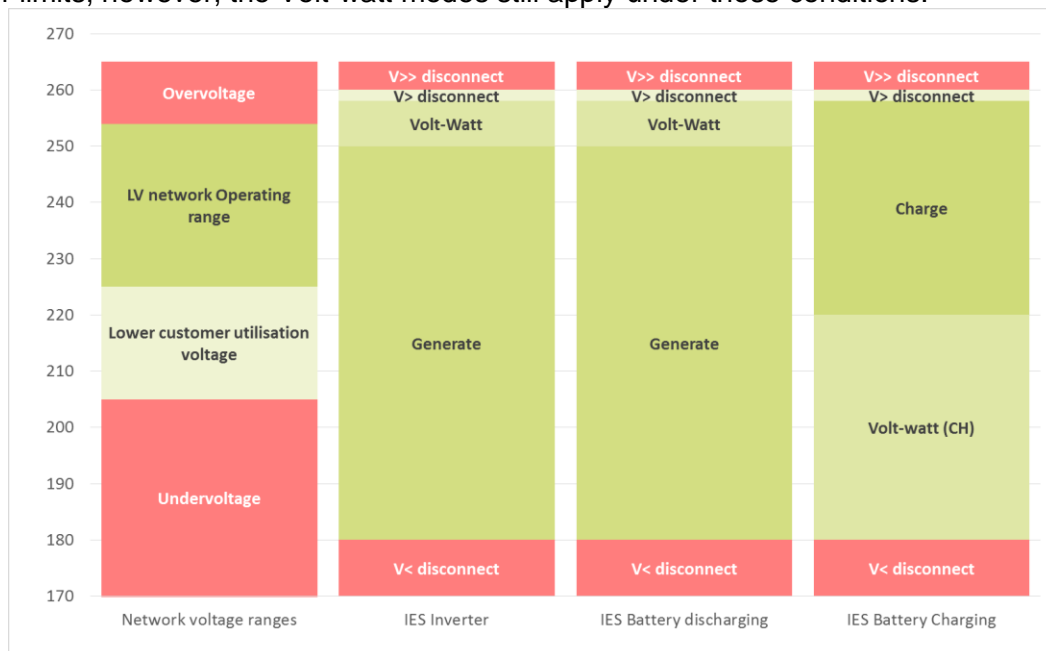

Figure 1 Voltage requirements for different modes of operation of IES with Batteries²
- Figure 1 Shows the alignment of modes of operation for IES and Battery IES with voltage range on Western Power network